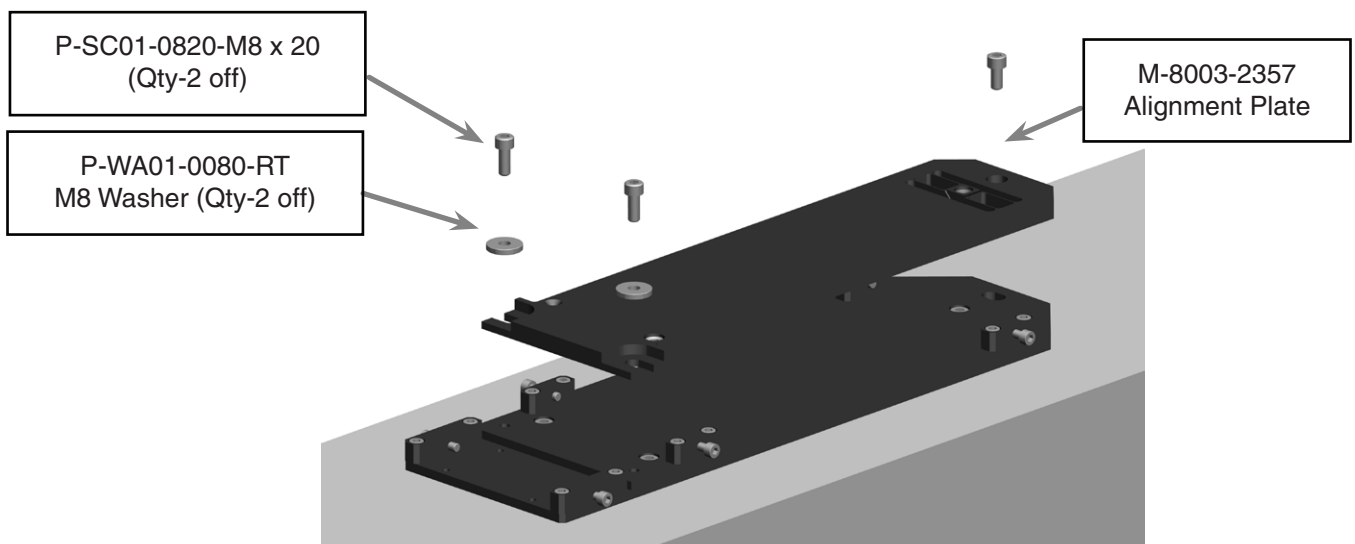

Figure 20 - Fixing the alignment plate to the baseplate
3. Fit (but pinch tighten only) as shown in figure 20